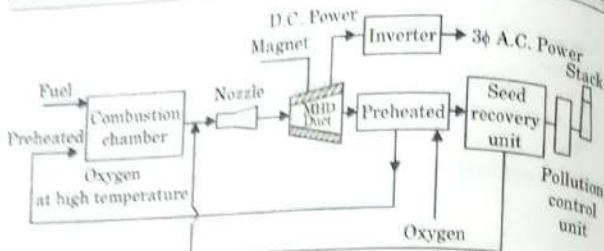

Fig. 3.11.1. Open cycle MHD generator.
- Fig. 3.11.1 shows the schematic diagram of an open cycle MHD generator.